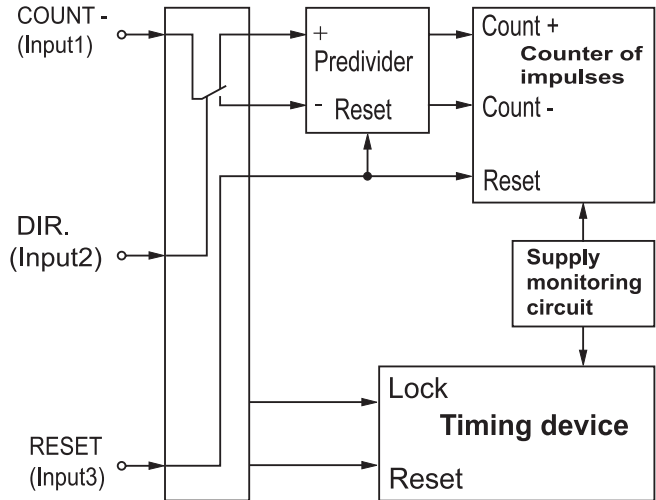

Figure 13. Up/down count with common count input, count direction set by external signal and external reset
3.1.7.5. **Up/down count with external reset and direction set by external signal** is set at **inP=4** (figure 13).